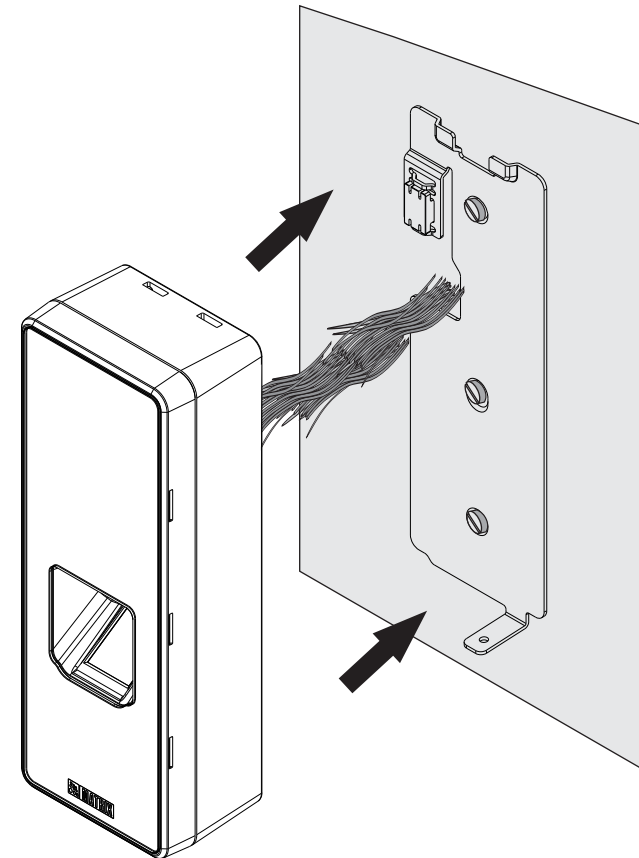

Figure 12
3. Lead the cables from the wall through the drilled area **D** of the Mounting Plate as illustrated in **Figure 12**. Connect the necessary cables with COSEC ATOM.